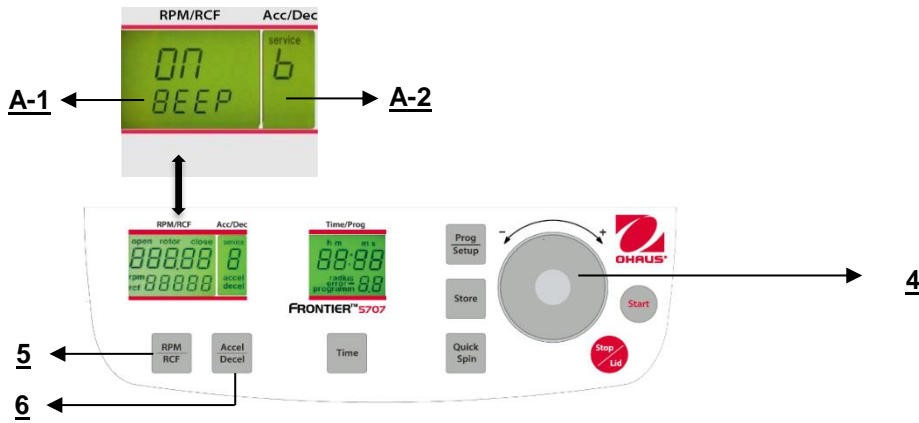

Figure. 32
Proceed as described under point 4.1.2 to enter this program mode and then press the key "Accel/Decel" (6). In the display "Acc/Dec" (A-2) the word "Service" flashes. Now select the letter "B" with the adjusting dial (4). As a result, in the display "RPM/RCF" (A-1), the word "ON/BEEP" appears. After pressing the key "RPM/RCF" (5), you can turn the keyboard sound (On) or (Off) with the adjusting dial (4). (See figure 32).